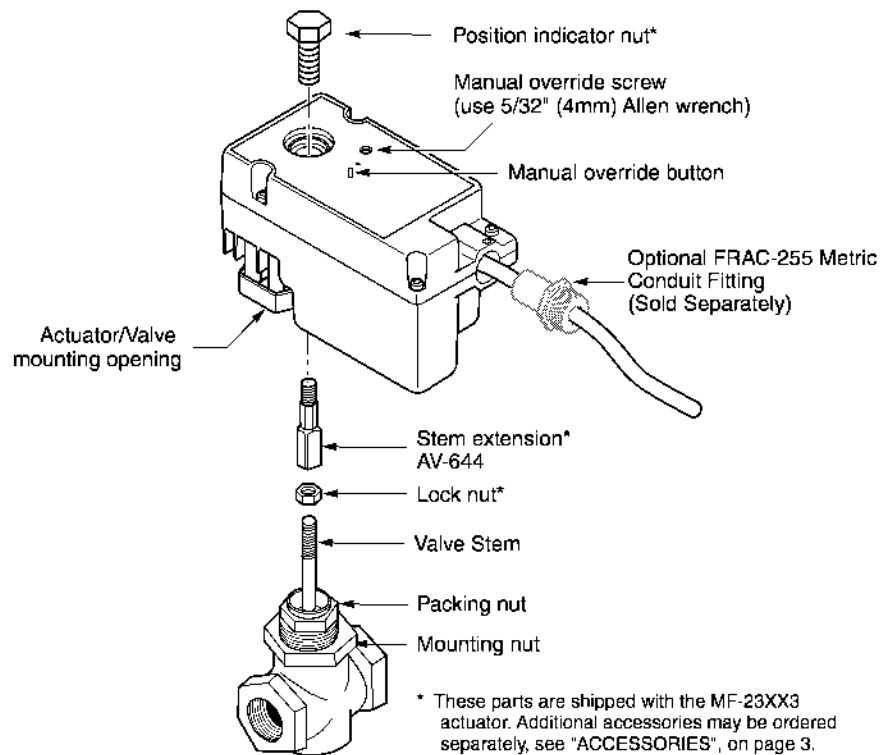
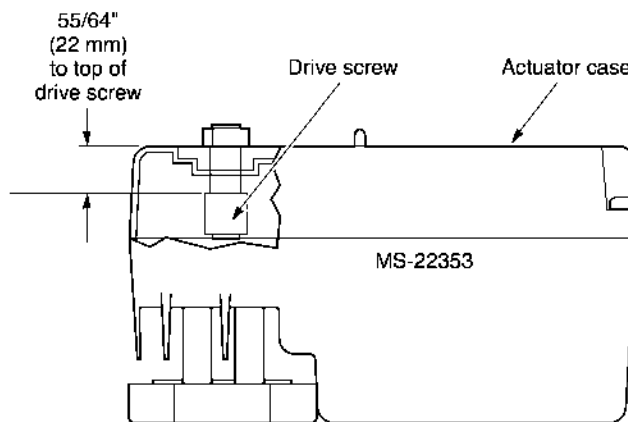

Figure-6 MS-22353 Assembly Diagram.
Figure-7 Proper Drive Screw Position Before Mounting.
AV-644	Valve linkage kit (included with MS-22353 actuator) (see Figure-6)
Note: If the actuator drive screw (Figure-7) has a round opening in the center, then the center section of the stem extension should also be round to match. AV-641 Valve Linkage Kit contains the round stem extension. (Valve/actuator assemblies using the AV-641 valve linkage kit are assembled similar to the AV-644 illustration shown in Figure-6.)
- Confirm that the drive screw is at the required distance from the top of the actuator case. See Figure-7. If the drive screw is not in position, insert a tapered pencil or pen into the drive screw and rotate.
Caution: The hex shaped interface between the stem extension and drive screw does not require high indicator nut tightening torque. Do not tighten the indicator nut beyond the hex shoulder on the stem extension or a reduction in the actuator output may result. See Figure-6 for parts identification.
All models are provided with a means of manual positioning the valve without power to the actuators. See Figure-6 for the location of the manual override button and manual override screw. Rotating manual override screw clockwise as seen from the top of the actuator, extends the actuator shaft.
Replace with a functional actuator. The AV-641 valve linkage kit can be ordered separately as a replacement part for the parts that were included with the actuator. The following instructions are for disassembling the actuator from the valve for actuator replacement or valve repacking. See Figure-6.